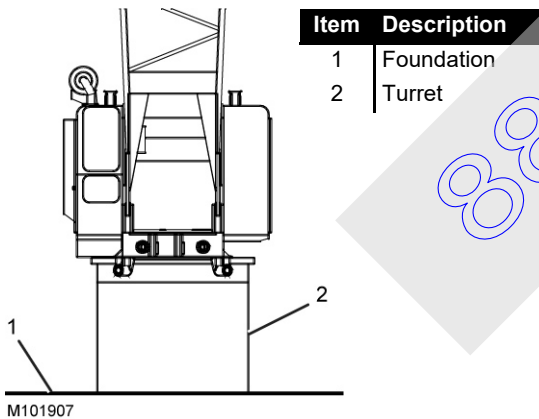

Figure 2-7. Turret-Mounted Crane
1. Crane rotating bed mounted on a turret (pedestal) which is securely fastened to the foundation (Figure 2-7).